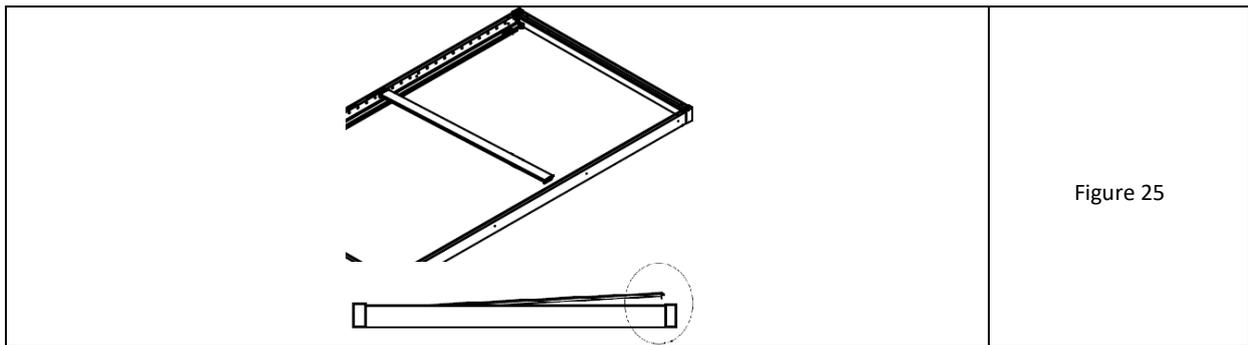

Figure 25
6. Place the drive pen over the beam and insert the side with the drive shaft into the drive pen hole (fig. 25). Push all the way in, then lower the opposite end horizontally and slide its shaft into the opposite hole in the beam. Push through the entire pen so that the shaft on the opposite drive side is completely inside the beam.